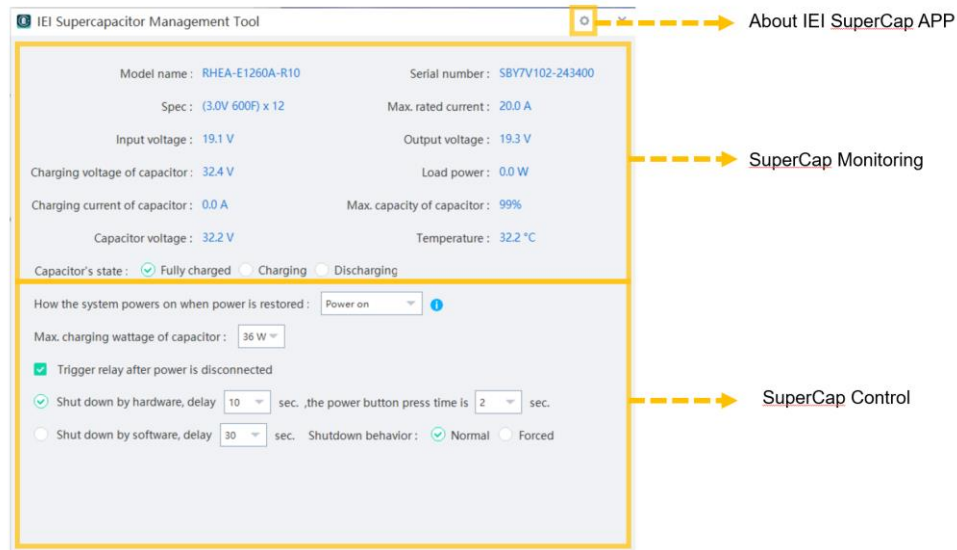

Figure 4-10: IEI Supercapacitor Management Tool Application Overview
Step 5: To launch the application, double click the shortcut (**Figure 4-10**) on the desktop